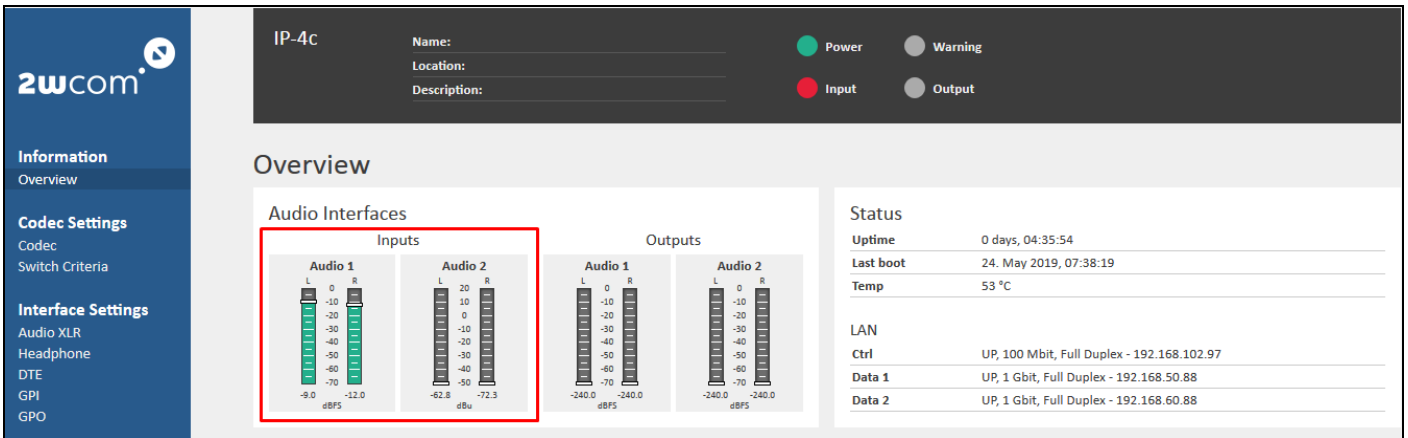

Figure 41: Overview – Audio level (4 and 2 activated channels)
⇒ The current level of the input gain is displayed on the display of the unit and in the user web interface under **Information→Overview** in the field “Audio Levels” (see Figure 41).
12. The current level of the inputs is displayed on the display of the unit and in the web interface under **Information**→**Overview** in the field “Audio Interfaces” (see Figure 41).